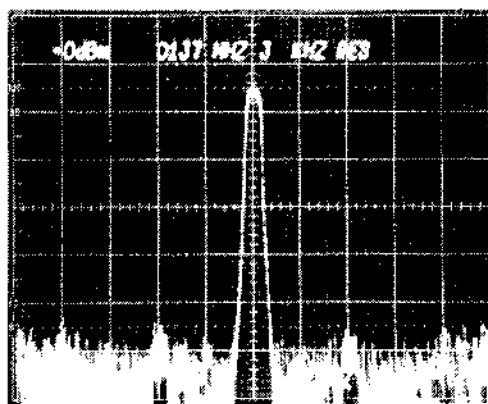

Figure 4-4 DUAL VCO 90 MHz to 1080 MHz Output
21. Connect Spectrum Analyzer to J4103 on the High Loop. Verify output level is -20 dBm (± 5 dB) at 1088 MHz. (Ref. Figure 4-4)
22. Using Keyboard (18) select RF 050.0000 MHz. With Spectrum Analyzer set at 10 kHz/division and 140 MHz, center frequency, verify the High Loop output level is -20 dBm (± 5 dB).